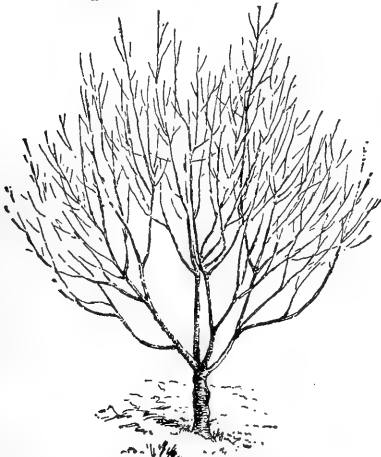

Fig. 101, Shows a peach tree two years old before pruning. (Paddock and Whipple.)
8. Study how Fig. 101 was properly pruned and headed-back.